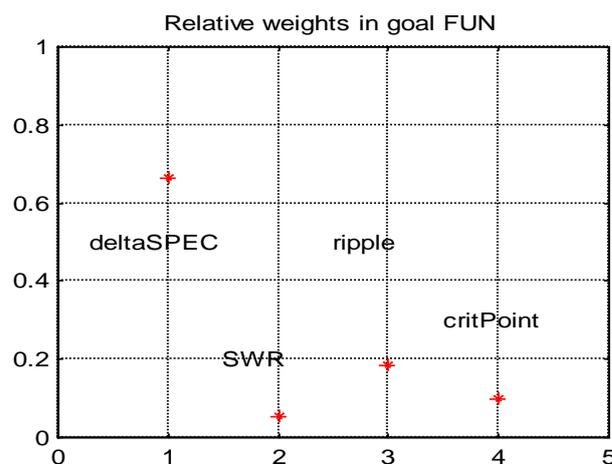

Fig.2
- ◆ Fig. 2 (here and on display) shows *relative weights* of different components of goal function: deviation from the spec., VSWR, passband ripple, and min. distance to critical corners of the spec. Changing weights of components in FUN.M file you can set you
- ◆ Although it depends on you aim, try to keep the weights in Fig.2 at reasonable levels. If, for example, the VSWR term dominates, you will hardly design a good filter in spec. Basically, the first term must always be available at level 30% to 50% or even higher.